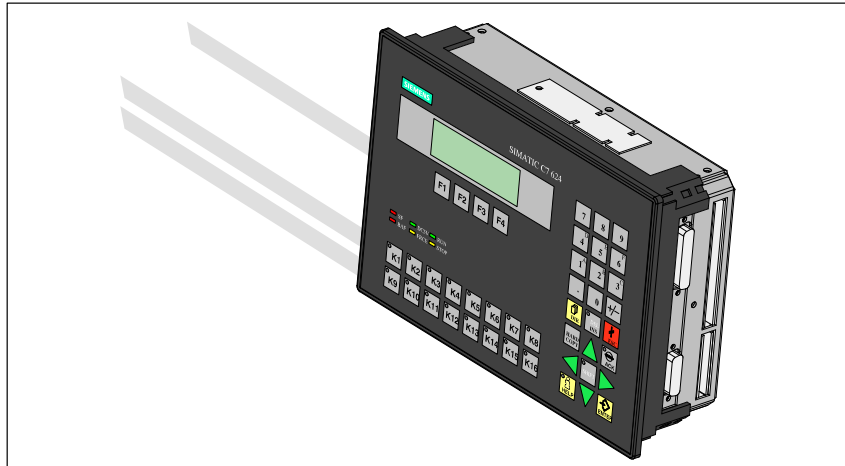

Figure 2-1 Inserting Labeling Strips
1.	Cut off the corners of the labelling strip that are marked with a ①
3.	Slide the strips into the slits provided. The location of the slits is shown in Figure 2-1. The strips are slid over the existing labeling.